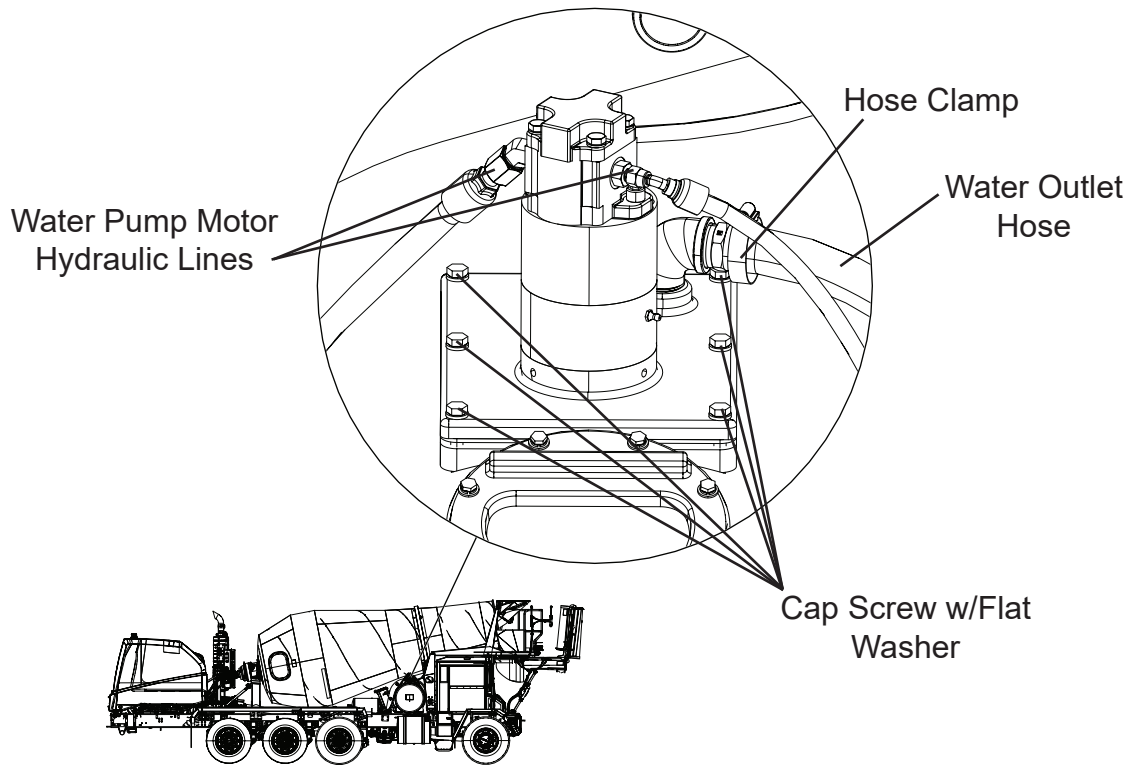

Figure 1
3. Disconnect the hydraulic lines connected to the water pump motor, see Figure 1. Cap the ends of hydraulic lines to keep them clean and prevent system contamination.
4. Loosen the hose clamp securing the pump water outlet hose and remove the hose from the water pump assembly, see Figure 1.
5. Loosen and remove the six 0.38-16 x 1.25" cap screws with flat washers securing the water pump assembly mounting plate to the water tank, see Figure 1.